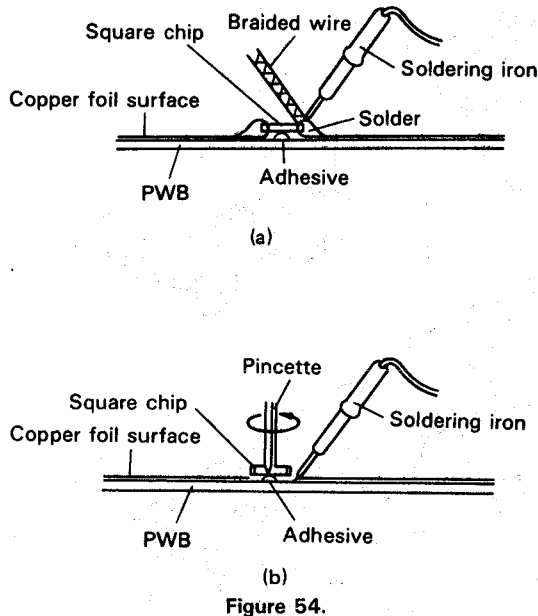

Figure 54.
1. Using a soldering iron, heat the solder at each terminal of the chip to get it absorbed into a braided wire applied thereon. See Fig. 54 (a).
2. Holding the chip with a pincette, take it off gently using the soldering iron's heat applied on each terminal of it. See Fig. 54 (b).